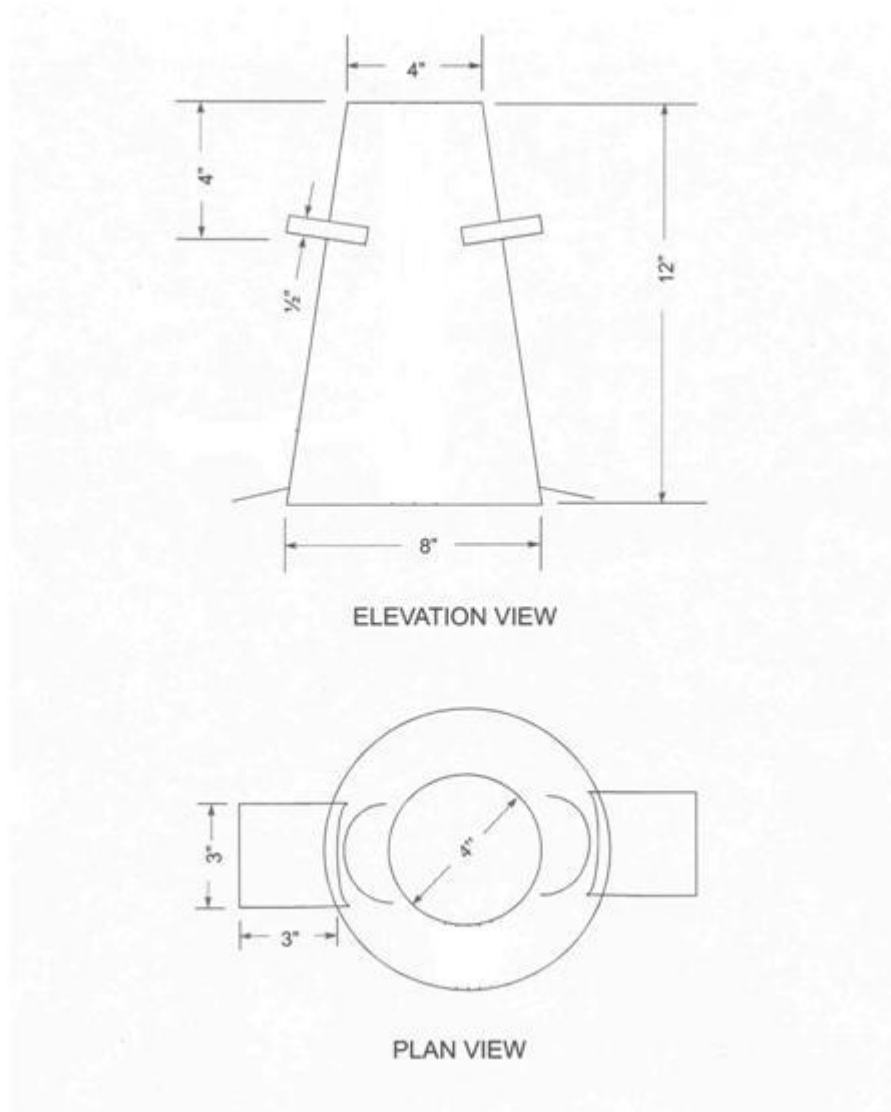

Figure 27-1
1. Mold (see Figure 27-1): Form the test specimen in a mold made of metal not thinner than No.16 (1.66 mm) gage and not readily corroded by the cement paste. The mold's form should have a lateral surface of the frustum of a cone with the base 8 in (200 mm) diameter, the top 4 in (100 mm) diameter, and the height 12 in (300 mm).